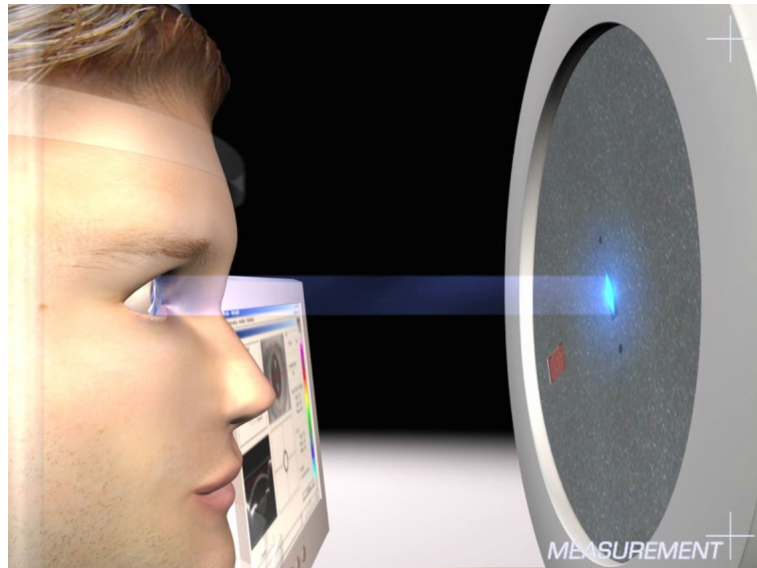

Fig. 10 Slit light on the cornea
8. Look at the patient's eye you are examining from one side and make sure that the blue slit light illuminates the cornea → fig. 10 (page 33).